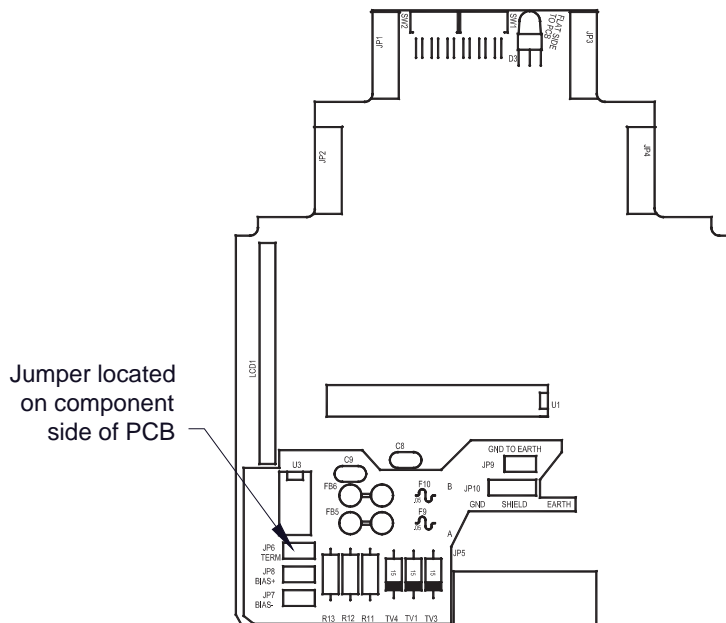

Figure 15 Location of Termination jumper (JP6)
- ❖ When I/O Modules are located at a remote distance from the controller, an end-of-line terminating resistor is required to enhance communications reliability. Identify the last I/O Module in the loop, and open the module casing using the clip release points. Locate and install the jumper on JP6 (TERM) Figure 15. This adds a 120Ω resistor to the end of the line. If applicable, add a 120Ω resistor to the last Modbus™ gas sensor.